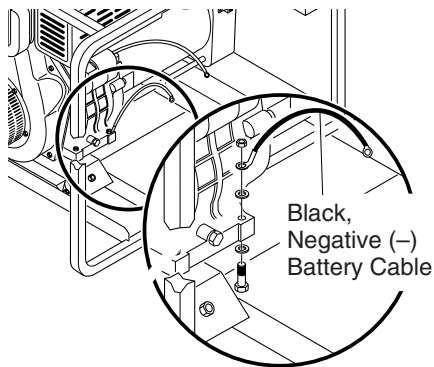

Figure 9 - Connecting Black, Negative (-) Battery Cable to Engine Block
2. Attach the black, negative (-) battery cable to the engine block. Use the bolt, nut, and two washers provided with the battery cables. Attach cable as shown in Figure 9.